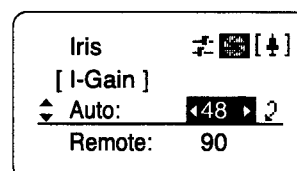

Fig. 1-4
4. Move the left or right key until the numerical value which will serve as the desired setting appears on the display. (Fig. 1-4)